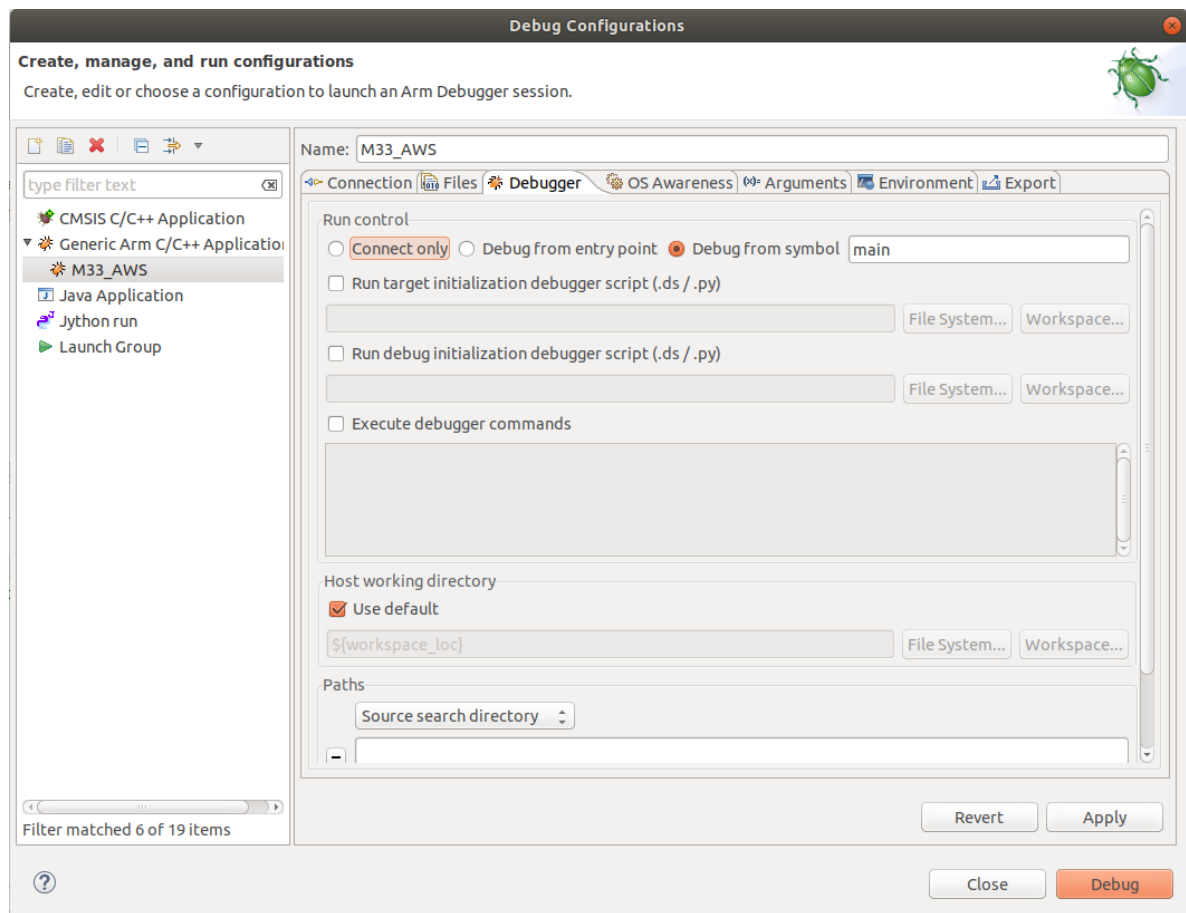

Figure 23 Debug from main
3. Select **Debugger** tab and select **Debug from symbol: main** as shown in Figure 23 Debug from main and click **Debug**